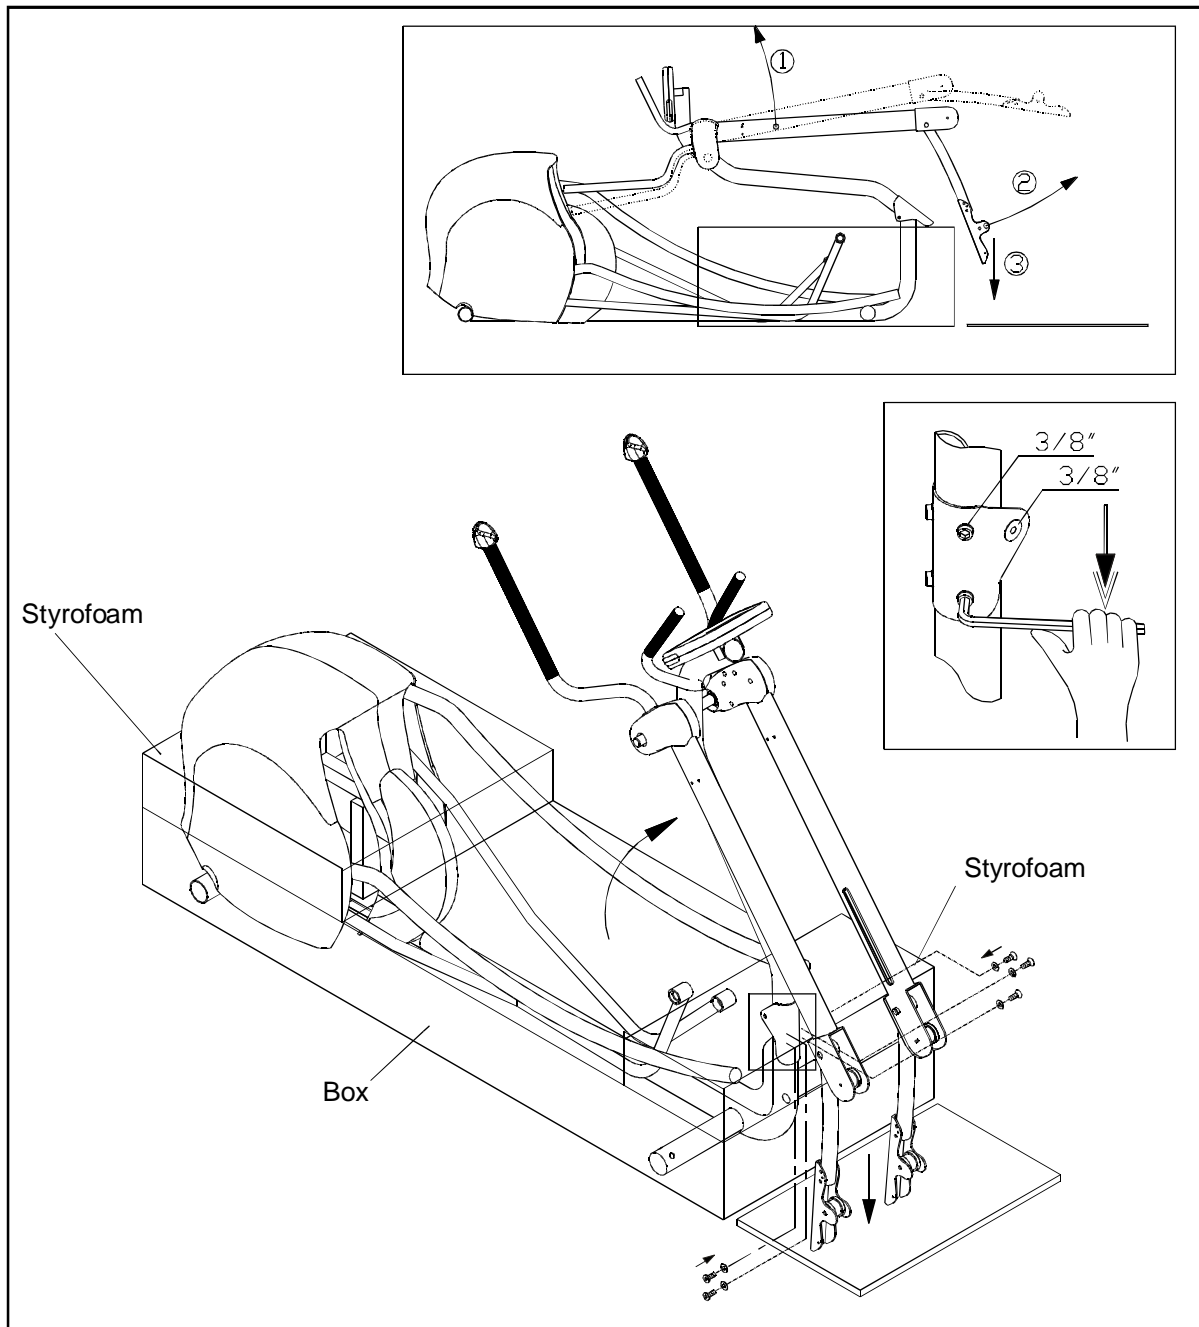

Fig.1
1. Remove only the upper box and Styrofoam. (see Fig 1)
2. Raise the main post into position, and secure with the 3/8" bolts by wrench provided. (see Fig. 1)